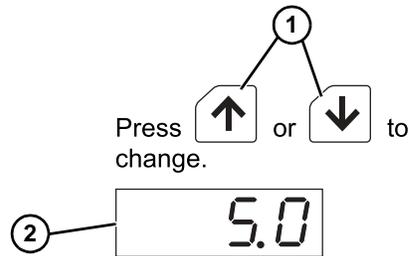

Figure 31
- Press up or down (Figure 31, item 1) to change the deceleration time (e.g., 5.0) (Figure 31, item 2). Pressing and holding the key for 3 seconds or more will increase or decrease the value successively.